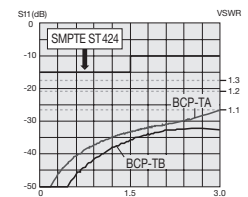

Fig.2 Return loss for BCP-TB and previous model BCP-TA
- 1.1 or less VSWR up to 3GHz. <Fig. 2>